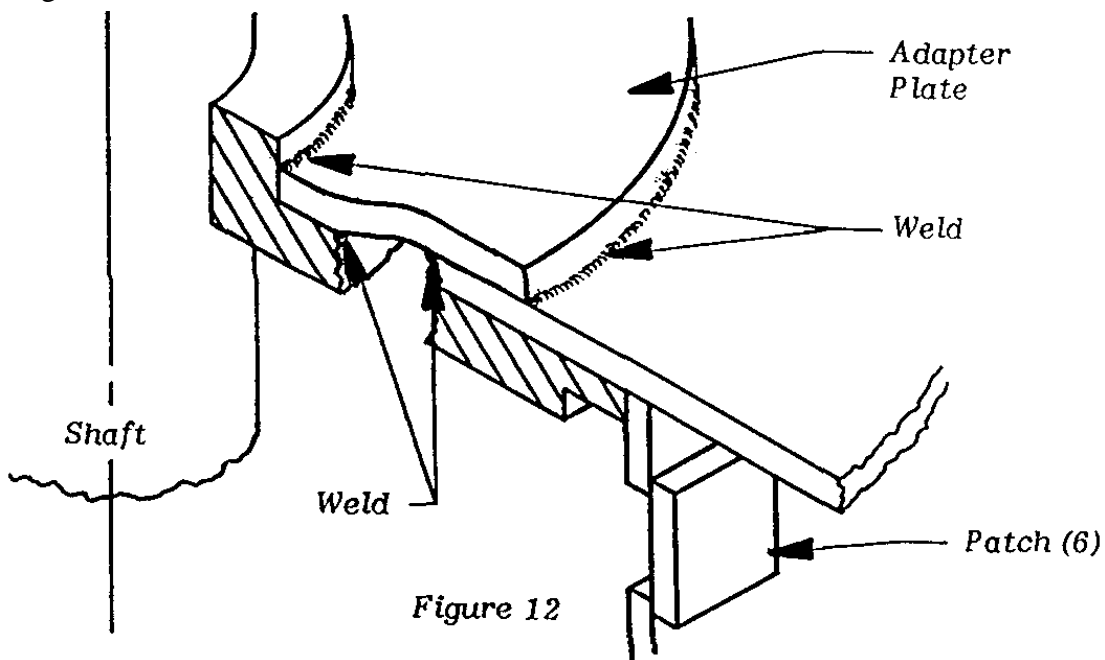

Figure 12
Step 4. Place supplied adapter plate in position as shown in Figure 12 below. Make welds shown. Weld back of adapter plate through access holes. **Before welding patches over access holes, be sure tunnel is free of trash.** Weld patches over access holes on all 6 sides of shaft housing.